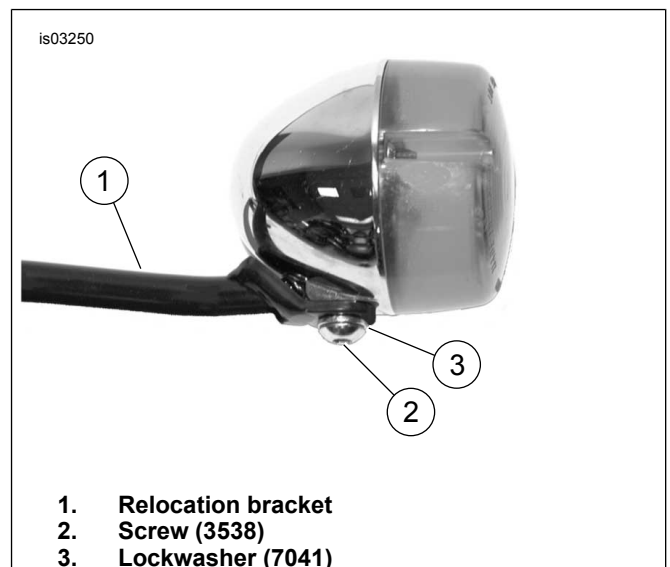
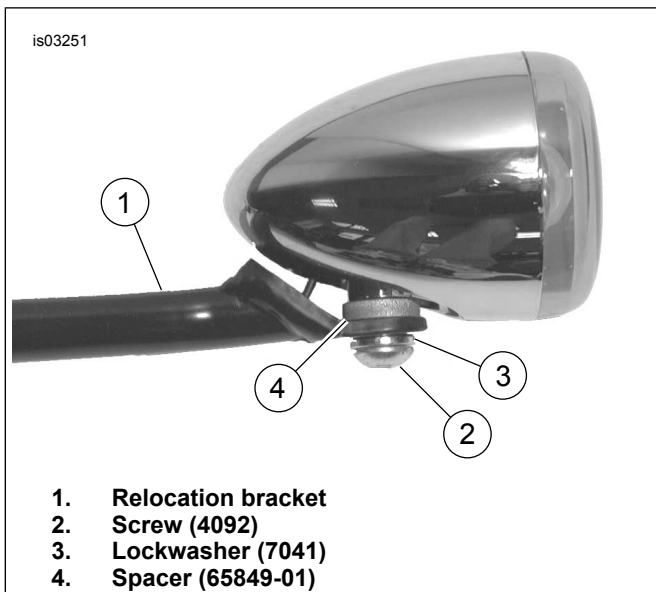

Figure 7. Install 3-Inch Turn Signals
Figure 8. Install 2-3/8 Inch Turn Signals
- a. See Figure 7. Apply Loctite 243 (blue) to threads of screw.
- b. Install turn signal to relocation bracket (1) using screw (2) and lockwasher (3). Tighten securely.
- c. See Figure 8. Apply Loctite 243 (blue) to threads of screw.
- d. Install turn signal to relocation bracket (1) using screw (2), lockwasher (3), and spacer (4). Spacer should be installed between lamp and relocation bracket.